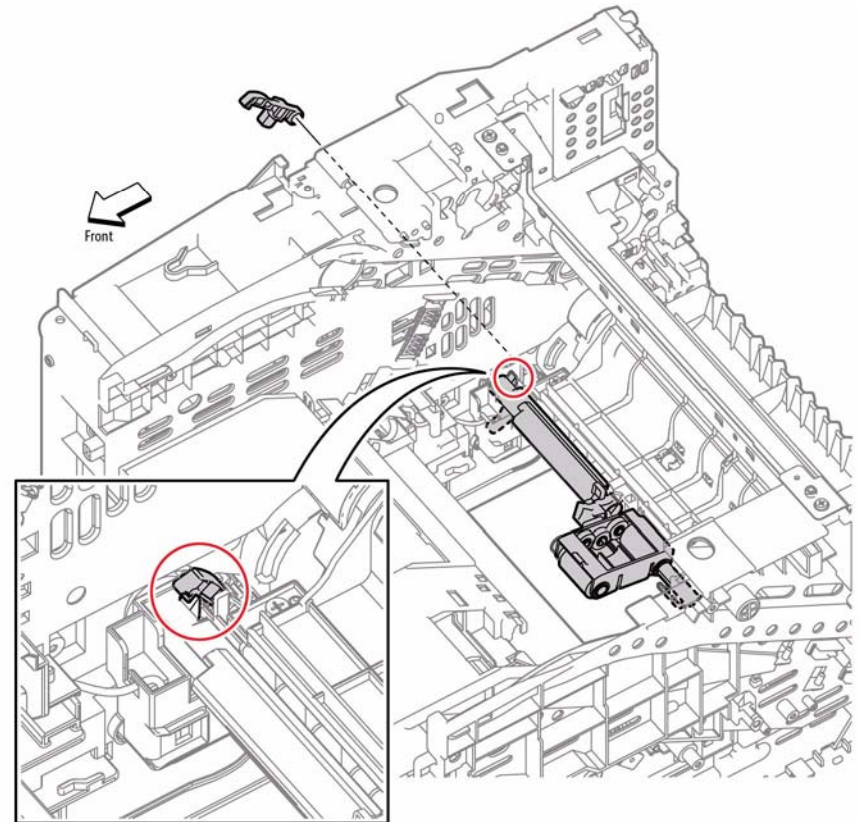

**Figure 6 Install the Transport Assembly**
1. Refer to Figure 6 to locate the registration actuator openings in the chassis. Carefully inset the actuators into the openings during installation. Seat the Transport Assembly boss on the chassis support as shown.